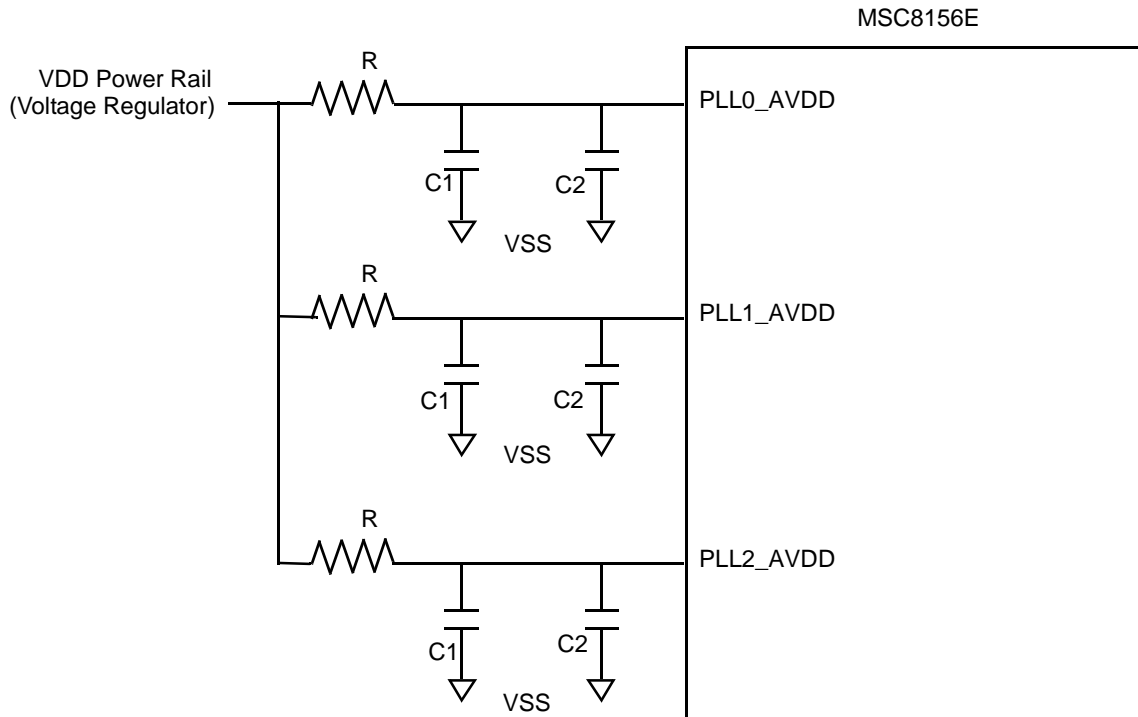

Figure 37. PLL Supplies
- Couple inputs PLL1\_AVDD, PLL2\_AVDD and PLL3\_AVDD with the VDD power rail using an RC filter (see Figure 37).
Each global PLL power supply must have an external RC filter for the PLLn\_AVDD input (see Figure 37) in which the following components are defined as listed: